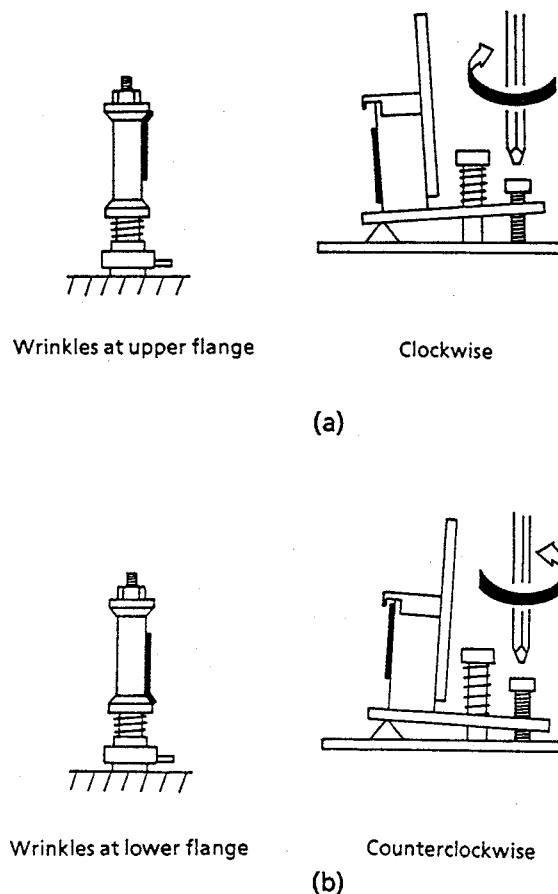

Figure 1-55.
- 1) Wrinkles at the upper flange : Turn the above adjusting screw clockwise, as shown in Fig. 1-55(a)
- 2) Wrinkles at the lower flange : Turn the above adjusting screw counterclockwise, as shown in Fig. 1-55 (b)